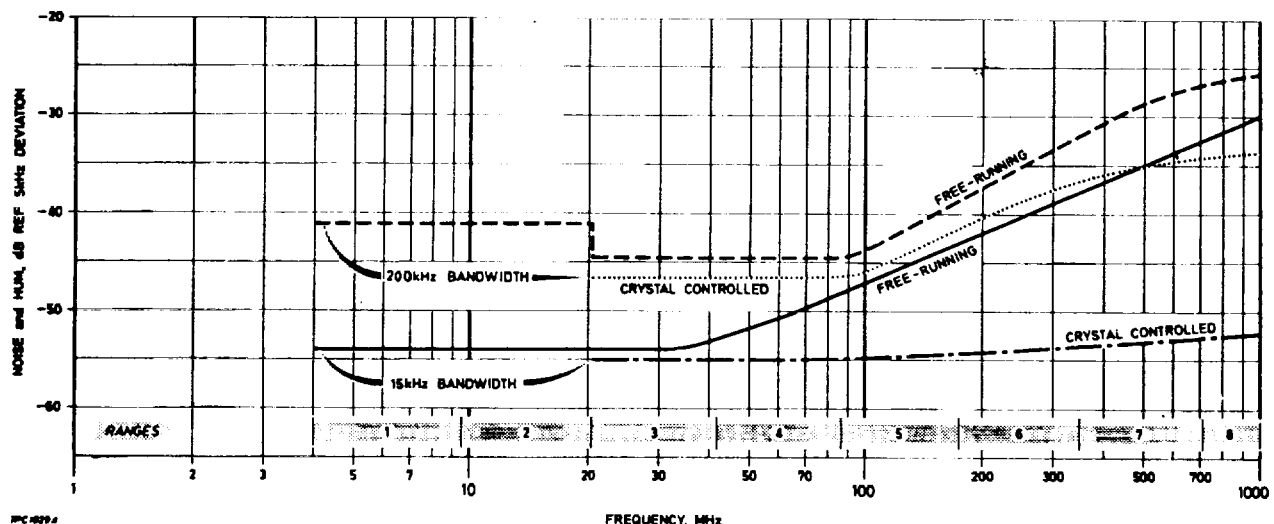

Fig. 2-4. Typical modulation meter noise levels
- (2) The output of the modulation meter is 0. 775 V into 600 Ω for full-scale deflection on the internal meter.
- (3) For measurements in the r. f. range 22 MHz to 1000 MHz the local oscillator must be crystal controlled if lowest possible internally generated noise is required. Thus, a crystal suitable for the appropriate frequency must be available. This is not a requirement below 22 MHz, where the internal noise of the oscillator is sufficiently low to make crystal control unnecessary.
- (4) The curves given in Fig. 2-4 show typical noise levels produced by free-running and crystal controlled oscillators over the r.f. range of the instrument. In the 15 kHz bandwidth, below 70 to 100 MHz, there is insignificant difference in respective noise levels. Above 100 MHz, however, the noise level free-running increases progressively with frequency, whereas under crystal control the level remains nearly constant. The necessity to use crystal control depends on the noise level of the equipment under test and, as shown by the curves, the band-